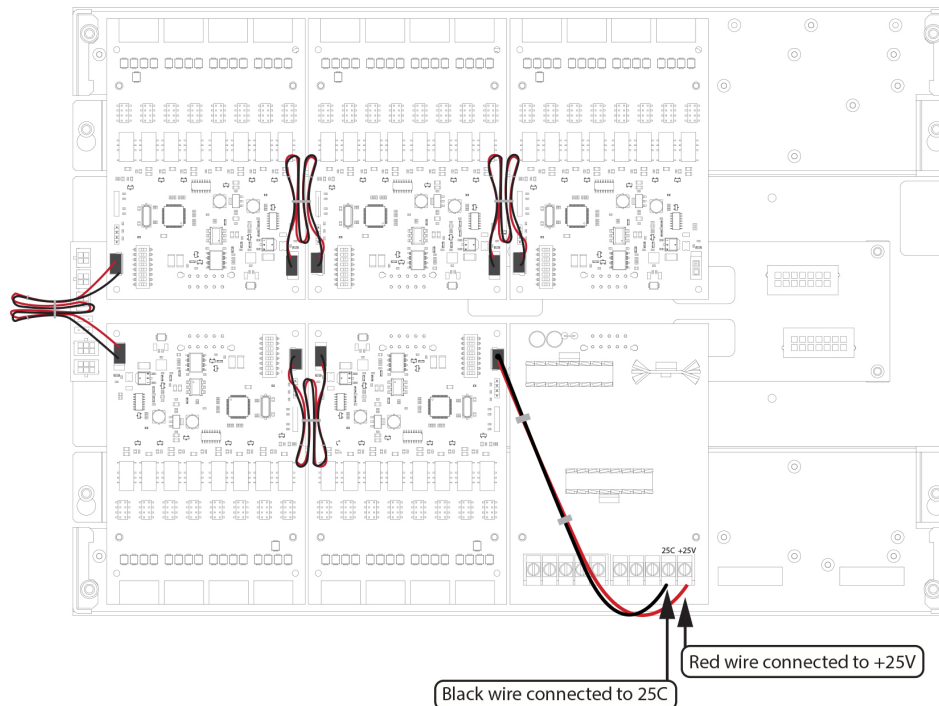

Figure 3: Connected cards powered by the 25 V Regulator
2. Clip harness A100-6305 / A010-6305 close to the two-pin connector on the P15 mating side, to expose the red and black wires. See Figure 3.